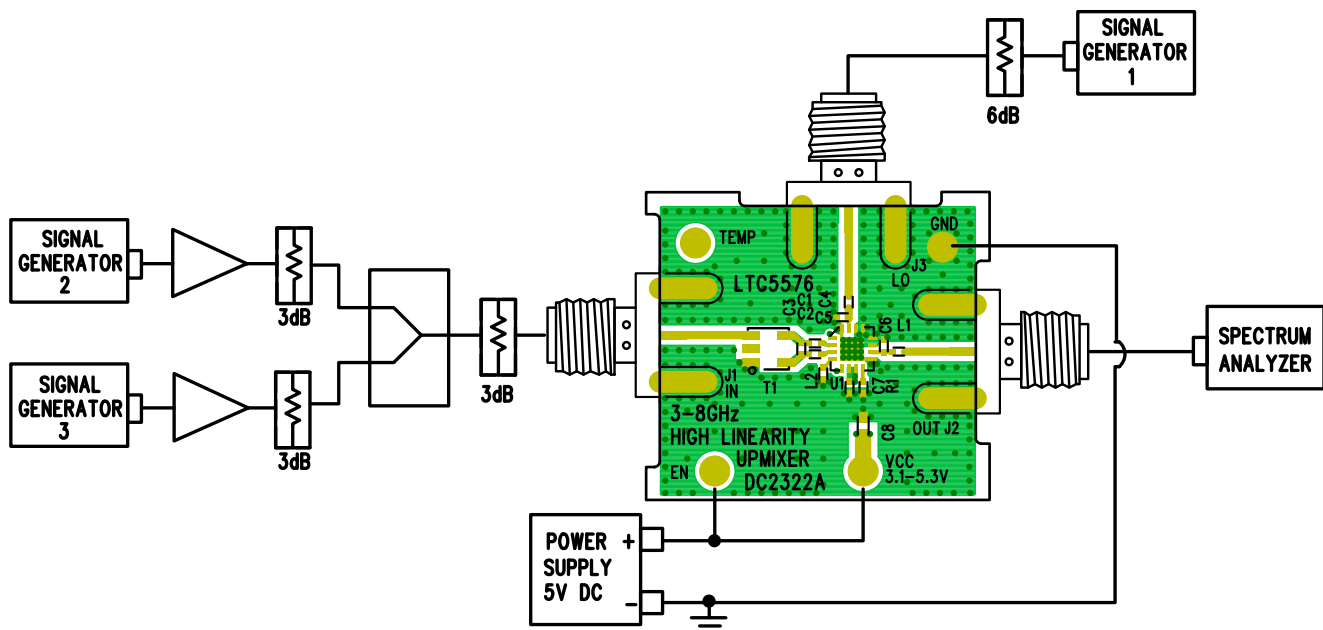

Figure 1. Test Setup for Mixer Two-Tone Measurements
1. Connect all test equipment as shown in Figure 1.